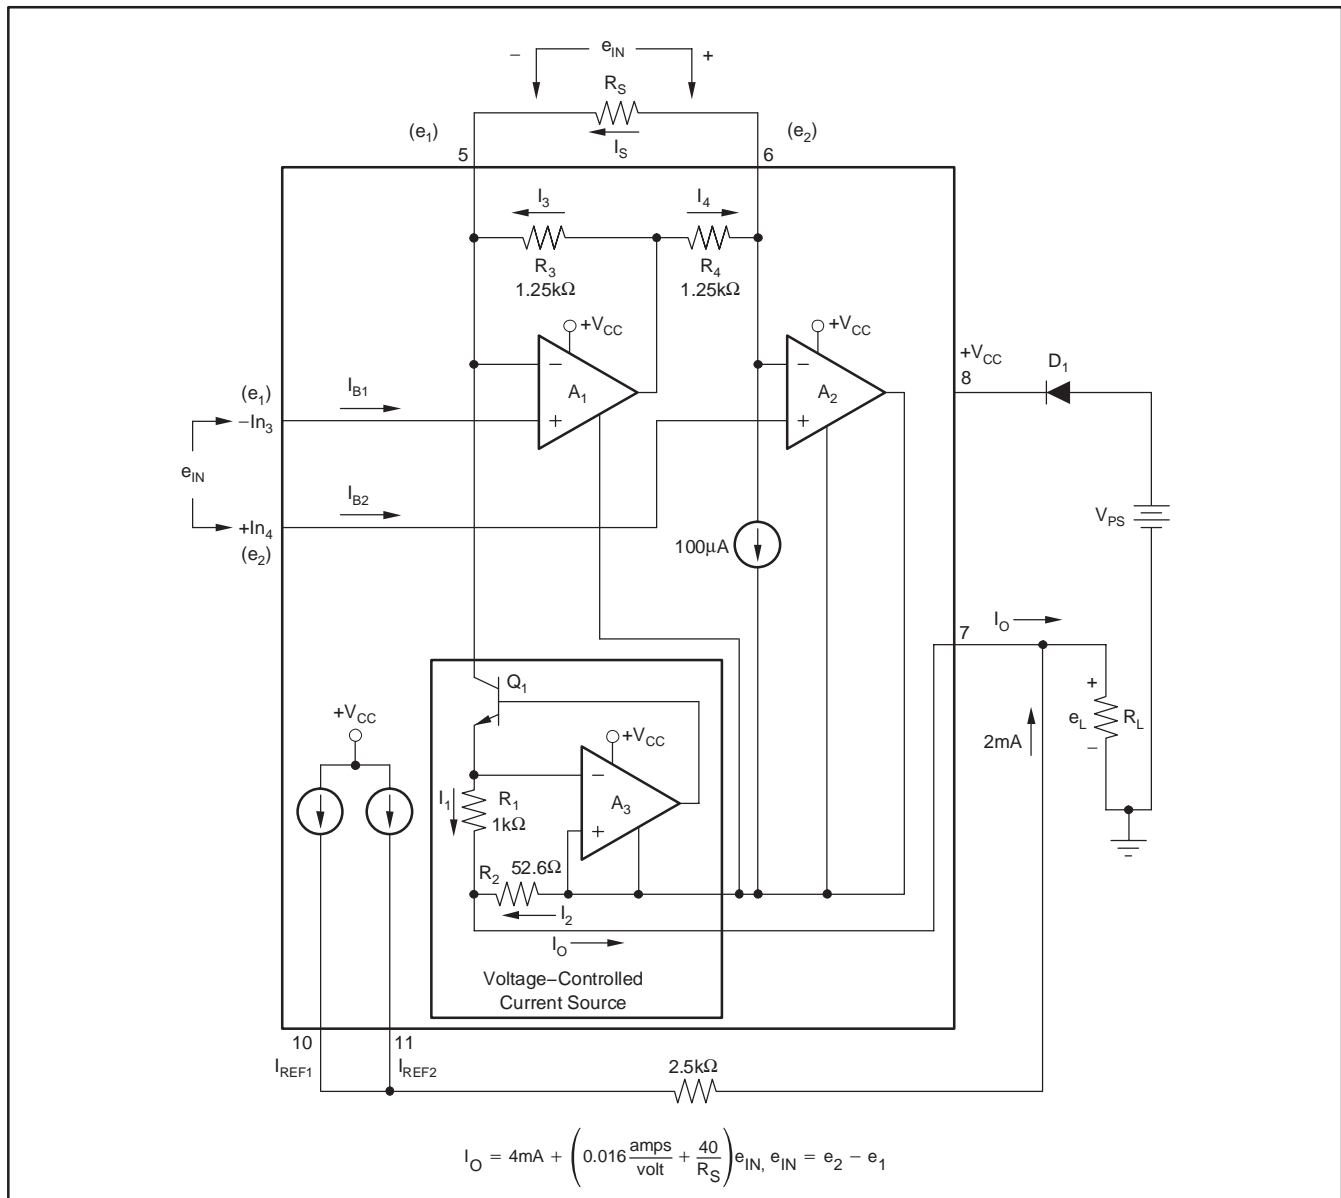

Figure 1. Simplified Schematic of the XTR101
A simplified schematic of the XTR101 is shown in Figure 1. Basically, the amplifiers  $A_1$  and  $A_2$  act as a single power-supply instrumentation amplifier controlling a current source,  $A_3$  and  $Q_1$ . Operation is determined by an internal feedback loop.  $e_1$  applied to pin 3 will also appear at pin 5, and similarly,  $e_2$  will appear at pin 6. Therefore, the current in  $R_S$  (the span setting resistor) will be  $I_S = (e_2 - e_1)/R_S = e_{IN}/R_S$ . This current combines with the current  $I_3$  to form  $I_1$ . The circuit is configured such that  $I_2$  is 19 times  $I_1$ . From this point, the derivation of the transfer function is straightforward but lengthy. The result is shown in Figure 1.
See Figure 1 for the basic connection of the XTR101. A difference voltage applied between input pins 3 and 4 will cause a current of 4-20mA to circulate in the two-wire output loop (through  $R_L$ ,  $V_{PS}$ , and  $D_1$ ). For applications requiring moderate accuracy, the XTR101 operates very cost-effectively with just its internal drive transistor. For more demanding applications (high accuracy in high gain), an external NPN transistor can be added in parallel with the internal one. This keeps the heat out of the XTR101 package and minimizes thermal feedback to the input stage. Also, in such applications where the  $e_{IN}$  full-scale is small ( $< 50\text{mV}$ ) and  $R_{SPAN}$  is small ( $< 150\Omega$ ), caution should be taken to consider errors from the external span circuit plus high amplification of offset drift and noise.
7. It is recommended that a reverse polarity protection diode ( $D_1$  in Figure 1) be used. This will prevent damage to the XTR101 caused by a momentary (such as a transient) or long-term application of the wrong polarity of voltage between pins 7 and 8.